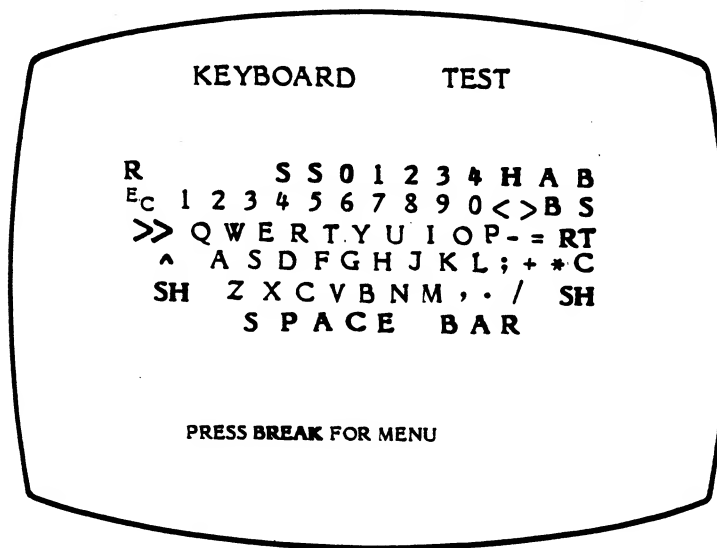

Figure 2-22. Keyboard Test Screen
**NOTE:** The keyboard shown on the screen and in Figure 2-22 is for an ATARI 1200XL TM Computer. Therefore, some keys shown will not function. As each key is pressed, the displayed key will flash to inverse video and a tone is heard. Remember, CONTROL and the SHIFT keys require an additional key be pressed AT THE SAME TIME. Failure of a key display and tone indicates the following possible failures:
Figure 2-22 shows the Keyboard Test Screen.